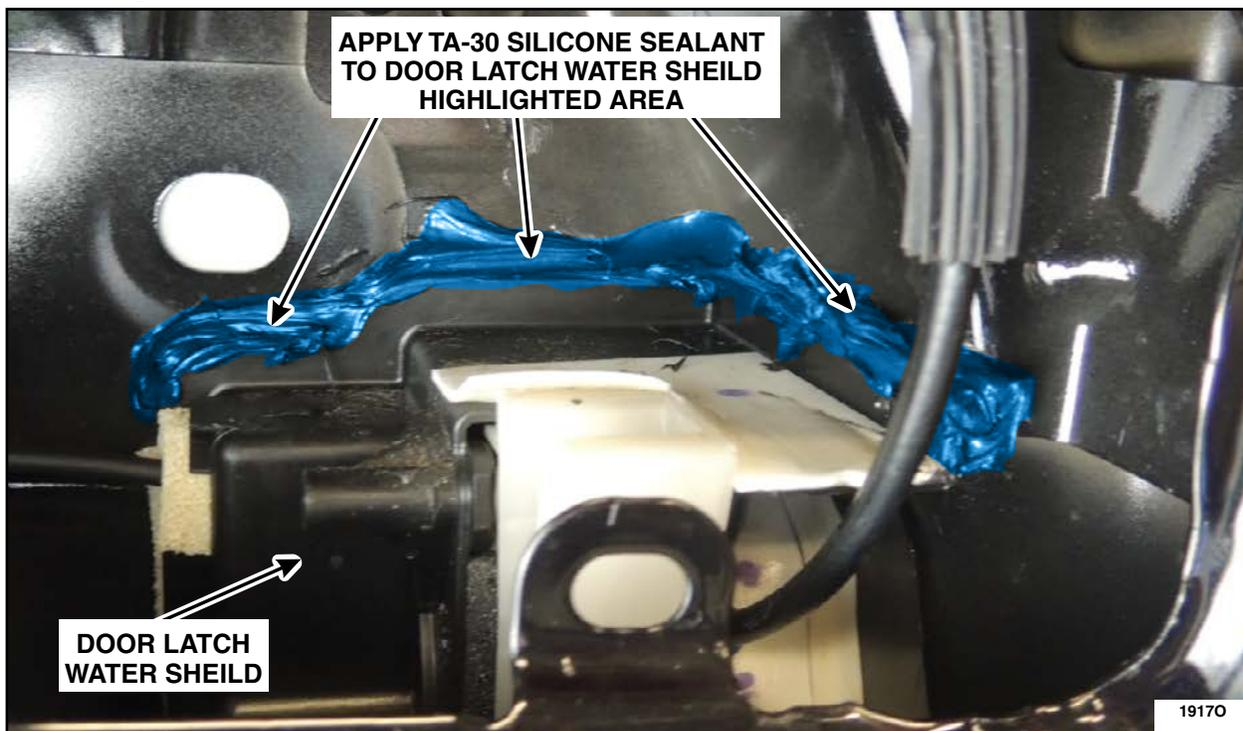

FIGURE 50
21. Apply Motorcraft® TA-30 silicone sealant in and over the mating area of the water shields to the door from the front to the outboard corner. Using light finger pressure, smooth the bead of silicone. See Figure 50.